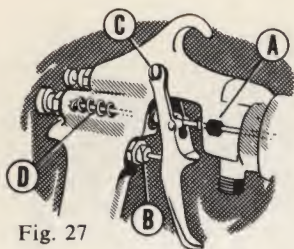

Fig. 27
32. What parts of the gun require lubrication? (See Fig. 27)